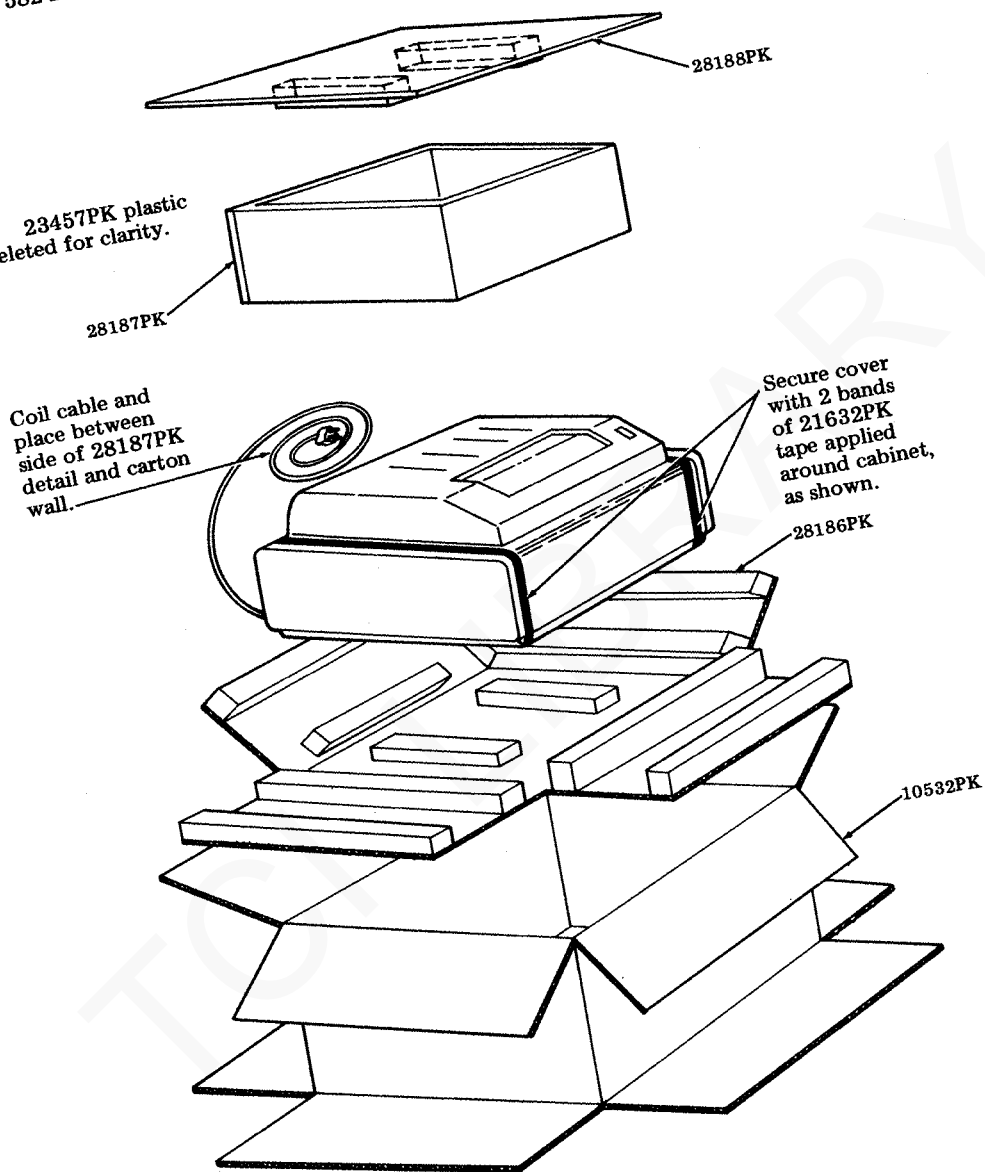

Fig. 25
- Step 1. Place a 28186PK detail on work bench. Position cabinet on detail as illustrated in Fig. 25. The end of the detail that has the largest blocks must be to the front of the cabinet.
- Step 2. Secure cover of cabinet with two bands of 21632PK tape applied around cover and body of cabinet. See Fig. 25.
- Step 6. Form a 28187PK detail and place in carton around cabinet dome. See Fig. 25. Coil cable and place between side of carton and 28187PK detail. See Fig. 25.
- Step 7. Place a 28188PK detail in carton as illustrated in Fig. 25.